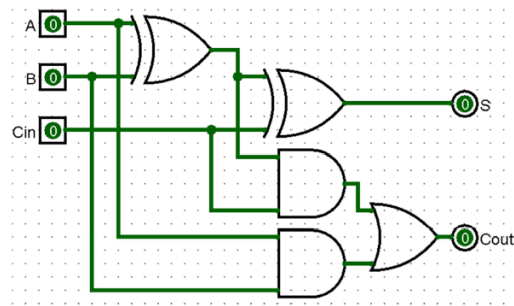

Fig. 4 Full Adder Circuit Design
3. Finally, design the circuit based on the above equations (Figure 4)
Within the newly created full adder FA0 circuit designed above (Figures 4 or 5), change the orientation of the Ci input so that it is facing south. Change the orientation of the Co output so that it is facing north (Figure 10.5). Your circuit is ready to be used as a module or sub-circuit in a more complex digital system design.
2. Build a Full Adder in Figure 4 (in this document) and test it.